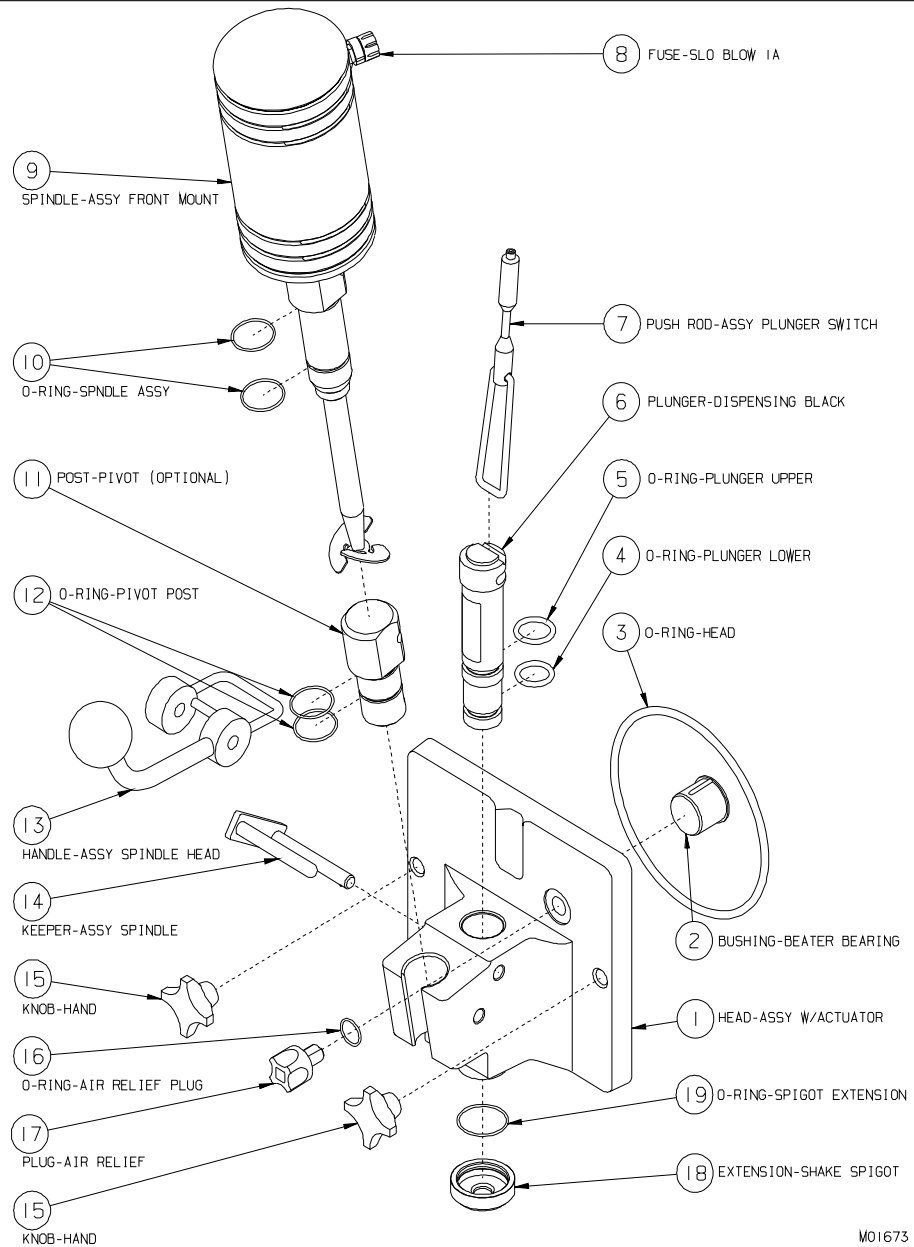

Figure 7-3
5. See figure 7-3 and O-ring chart in the Replacement Parts Section of this manual. Install and lubricate the O-rings (4,5) on the plunger (6) and insert into the head (1), with the slot facing the rear of the head.
6. Install and lubricate the 6-inch O-ring (3) on the head (1).
7. Install and lubricate the O-ring (16) on the air relief plug (17). Then, thread the plug into the head assembly.